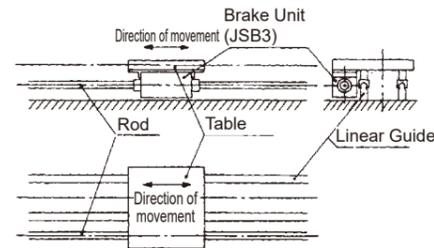

Fig. 1
- As shown in Fig.1, the Brake Units is fixed to the table, so keep it parallel to the direction of table travel.